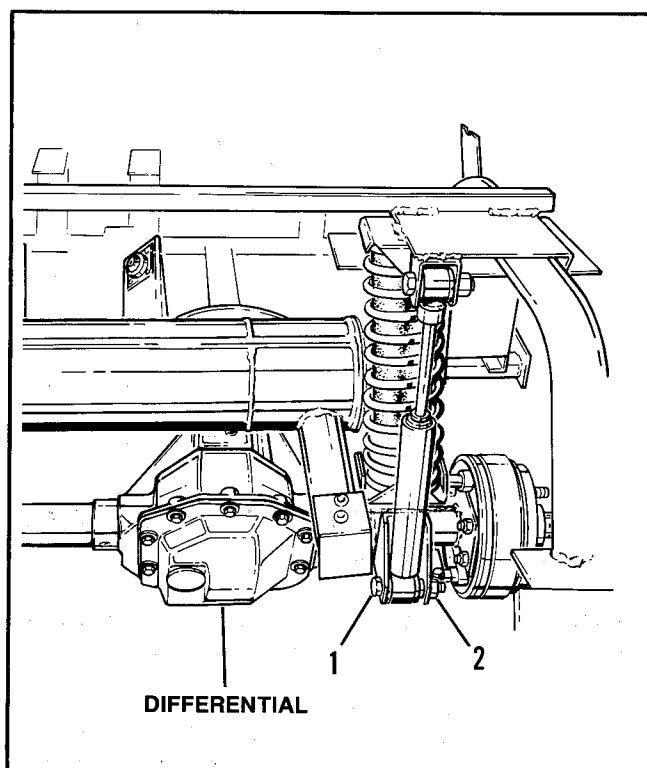

Figure 18 – Differential Removal
Removing Rear Axle and Differential Assembly (Figure 18)
- c. Support differential assembly and remove lower shock mounting bolt (1) and nut (2), Figure 18.